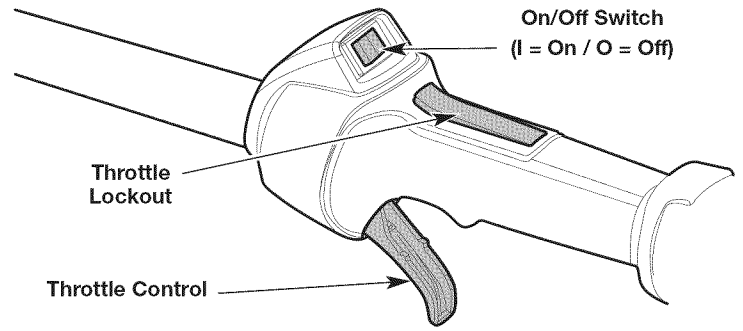

Fig. 15
NOTE: There is no need to turn the unit on. The On/Off switch is in the **On (I)** position at all times (Fig. 15).
5. Press and hold the throttle lockout. Squeeze and hold the throttle control (Fig. 15). Pull the starter rope with a controlled and steady motion **5 times** to start the engine (Fig. 17).
2. Press and hold the On/Off switch in the **Off (O)** position until the engine comes to a complete stop (Fig. 15).
6. Press and hold the throttle lockout. Squeeze and hold the throttle control (Fig. 15). Run the Speed Start™ accessory in intervals no longer than 2 seconds each until the unit starts.